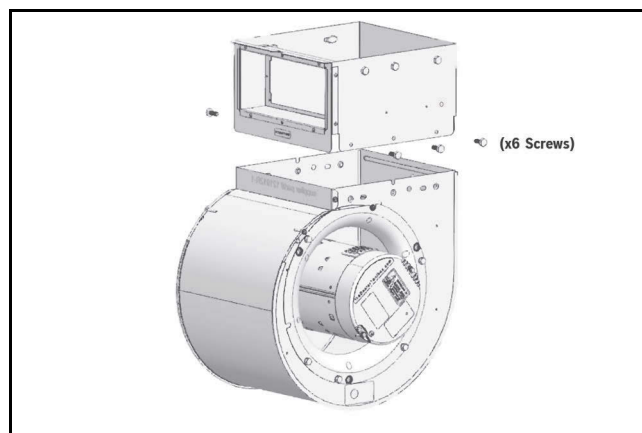

Fig. 10 Attach the Heater Collar
3. Orient and attach the collar to the blower housing opening. (→Refer to Fig. 10.)
4. Install the three screws on each side of the collar. (→Refer to Fig. 10.)